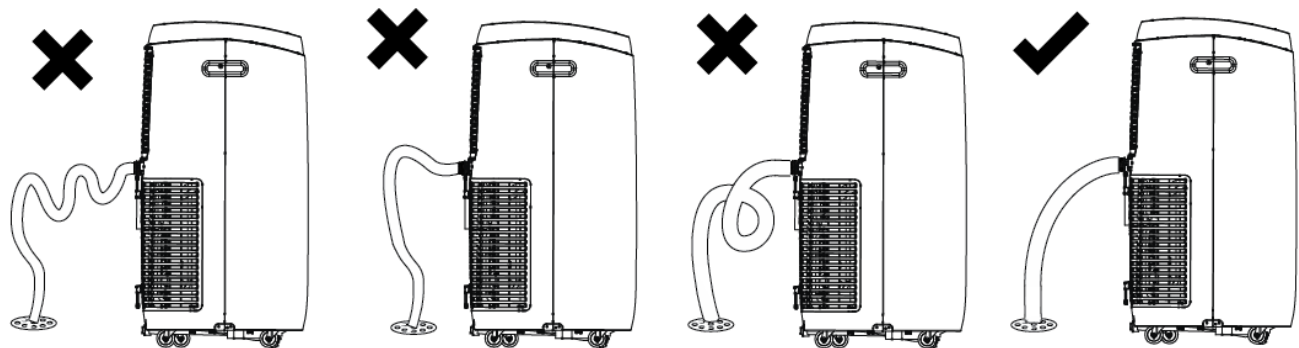

Fig 15.1
5. Make sure that there are no kinks or knots in the garden hose (Fig 15.1).